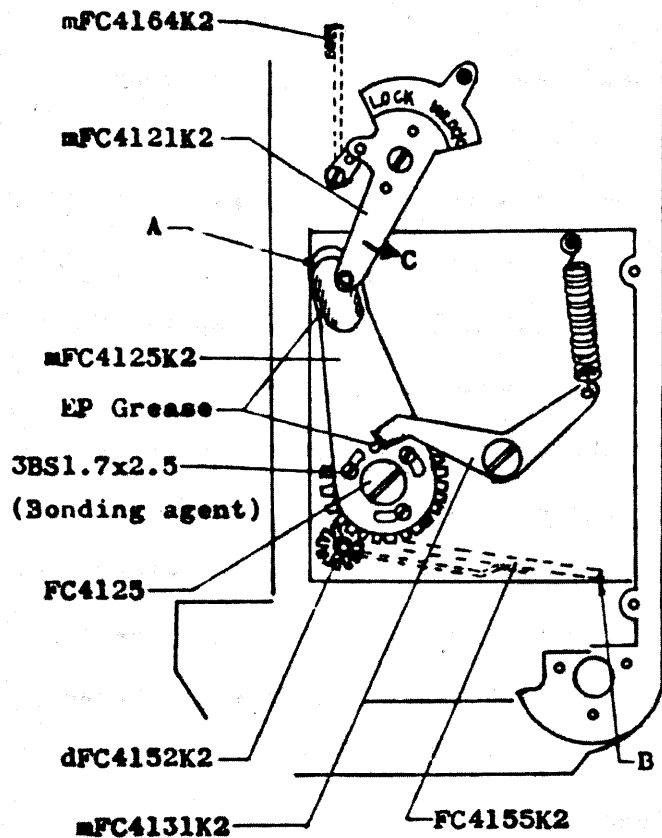

Fig. 11
The related position of the dFC4152K and the cut slit of the safety collar dFC4154 is shown in Fig. 11, above. Apply bonding agent to the tip of the screw 4B1.7x25, and secure the safety collar to the dFC4152K with the screw.
Then attach the light-tight flap assembly and secure it with a screw. Be careful of the related position of the flap assembly and the lever assembly FC4152K2 (see Fig. 11, below). Keep the play at "A" from 0 to 0.5mm. Let "B" touch the wall of the camera body by adjusting with a screw 3BS1.7x2.5. Apply some bonding agent to the screw. At this stage, the relative
(3).1. When the condition is like the picture at the bottom of Fig. 11, the cut slit of the safety collar dFC4154K on the other side faces upward.